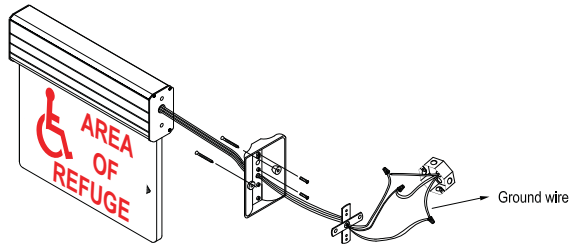

Fig. 6 Side Mounting
Step 4	Assemble canopy with aluminum housing, see Figure 6. Using holes "3" and "5" assemble canopy with (2) 10-24 screws and nuts.